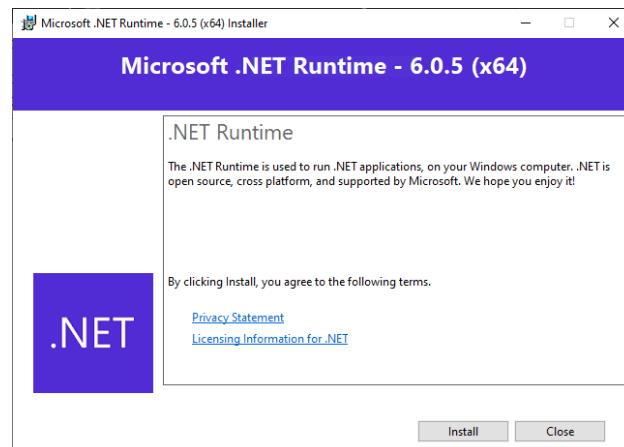
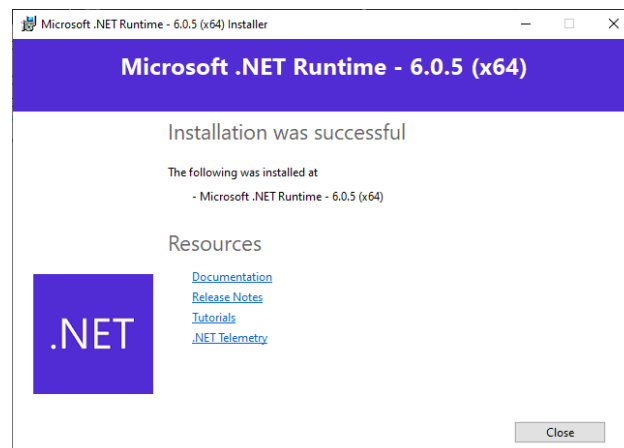

Figure 13: .NET runtime installation window.
Figure 14: .NET runtime successful installation window.
6. (Optional) In case the .NET runtime needs to be installed, click *Install* in the .NET runtime installation window (Fig.13). In case of successful installation, the window shown in Fig.14 will appear.